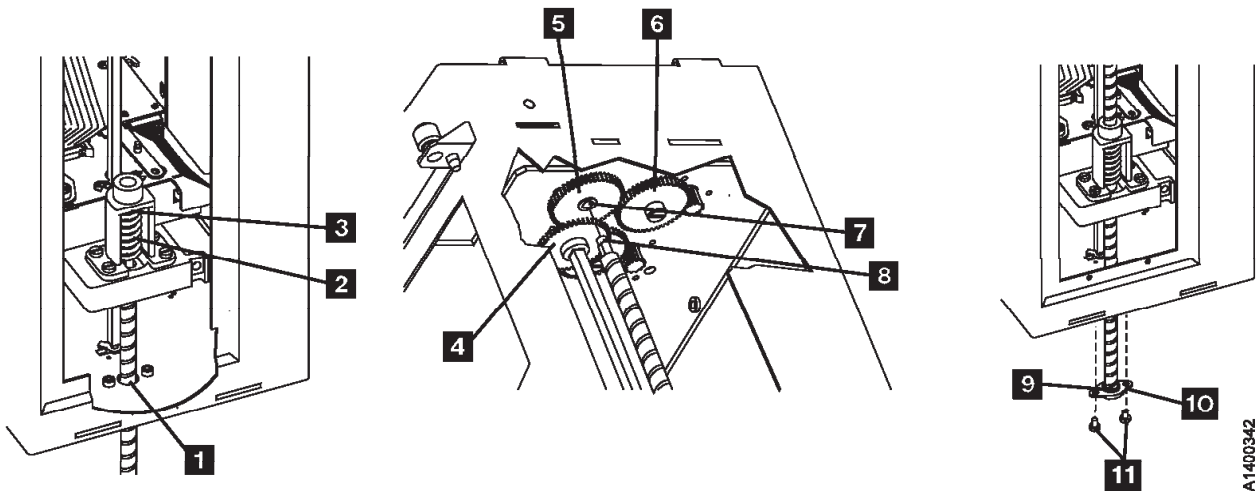
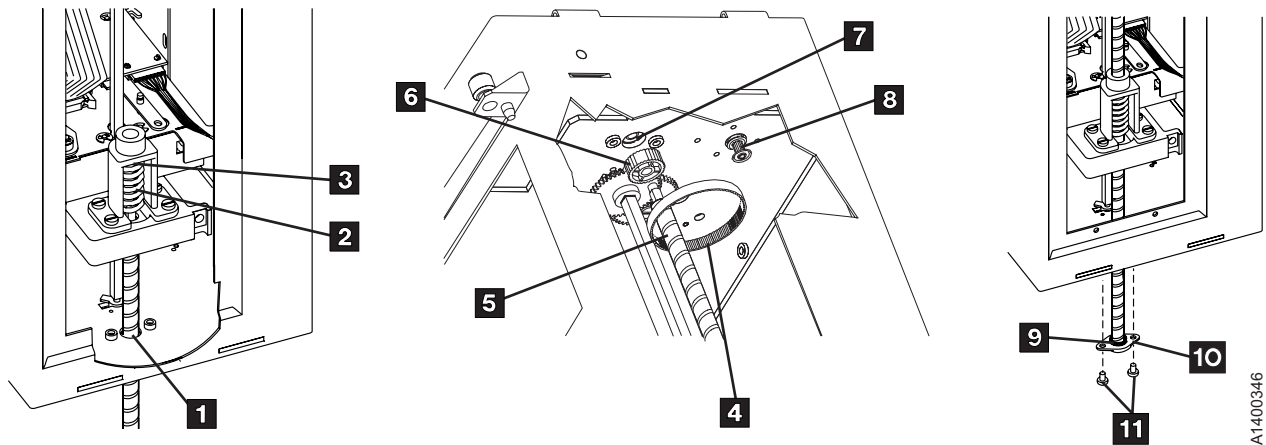

Figure 10-10. Gear-driven Leadscrew, Gears, and Bearing
Figure 10-11. Belt-driven Leadscrew, Gears, Belt, and Bearing
4. See Figure 10-10 (gear-driven leadscrew) or, Figure 10-11 on page 10-19 (belt-driven leadscrew). The D-shaped end of the leadscrew must be up for this step. Insert the leadscrew up through the leadscrew bearing hole **1**.
5. See Figure 10-10. Continue rotating the leadscrew counterclockwise until the top of the leadscrew **8** is just below the bottom of the feed shaft gear **4**, as shown.
10. See Figure 10-11. Install the belt **4** over the leadscrew **5**.